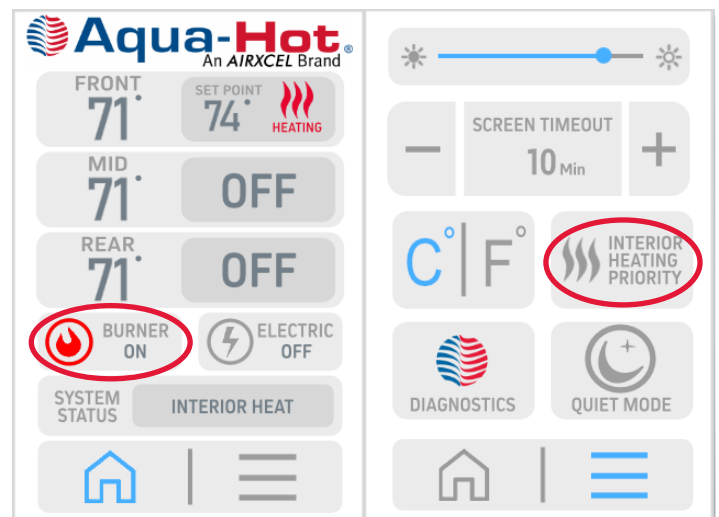

Figure 17
3. At the LCD screen, turn the burner on, and tap to activate “interior heat priority”. (Figure 17)
4. On the LCD screen, set the floor zone temperature to 86° and turn the zone on. (Figure 17)